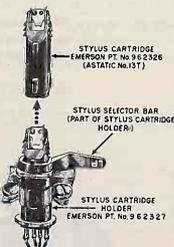

FIGURE 3 - STYLUS REMOVAL
- Reinsert new cartridge. Keying of cartridge is accomplished by lining up ridge on cartridge shafts to slot on holder (see Fig. 3, Stylus removal).